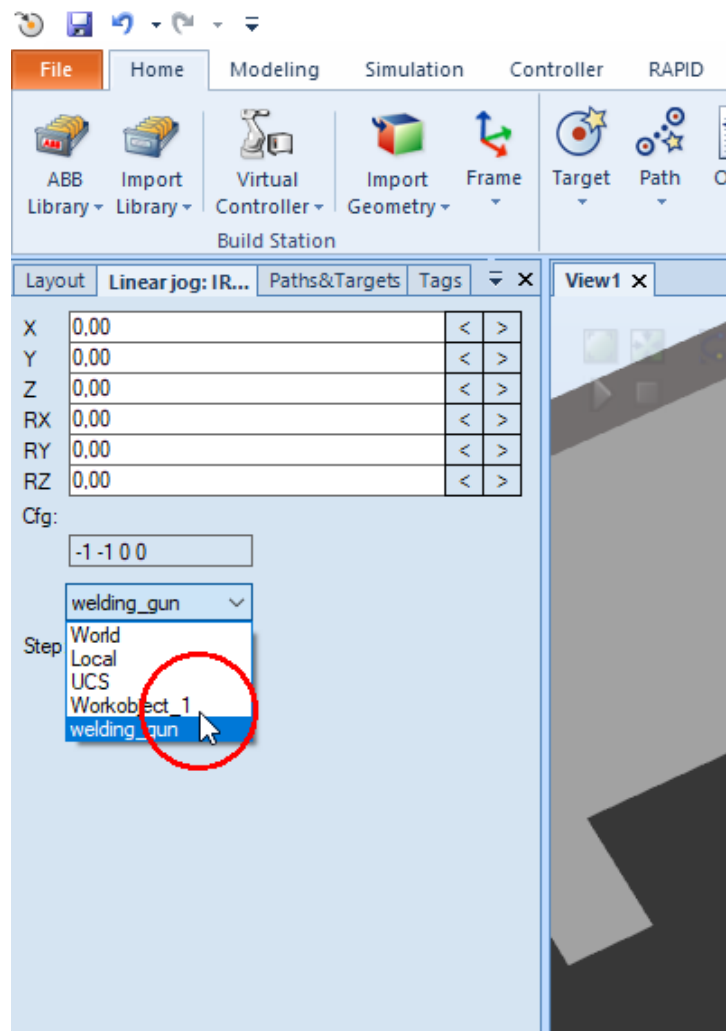

Figure 9: Selecting welding gun as reference for jogging
- (b) select the welding gun as the jogging reference (refer to Figure 9) to achieve:
You will be doing quite a bit of jogging to get usable targets. To help the process try using other jogging methods available in RobotStudio. The one already mentioned is jogging orientation while having the welding gun as reference. Selecting this option is displayed in Figure 9. Other options include dragging arrows for translation or circles